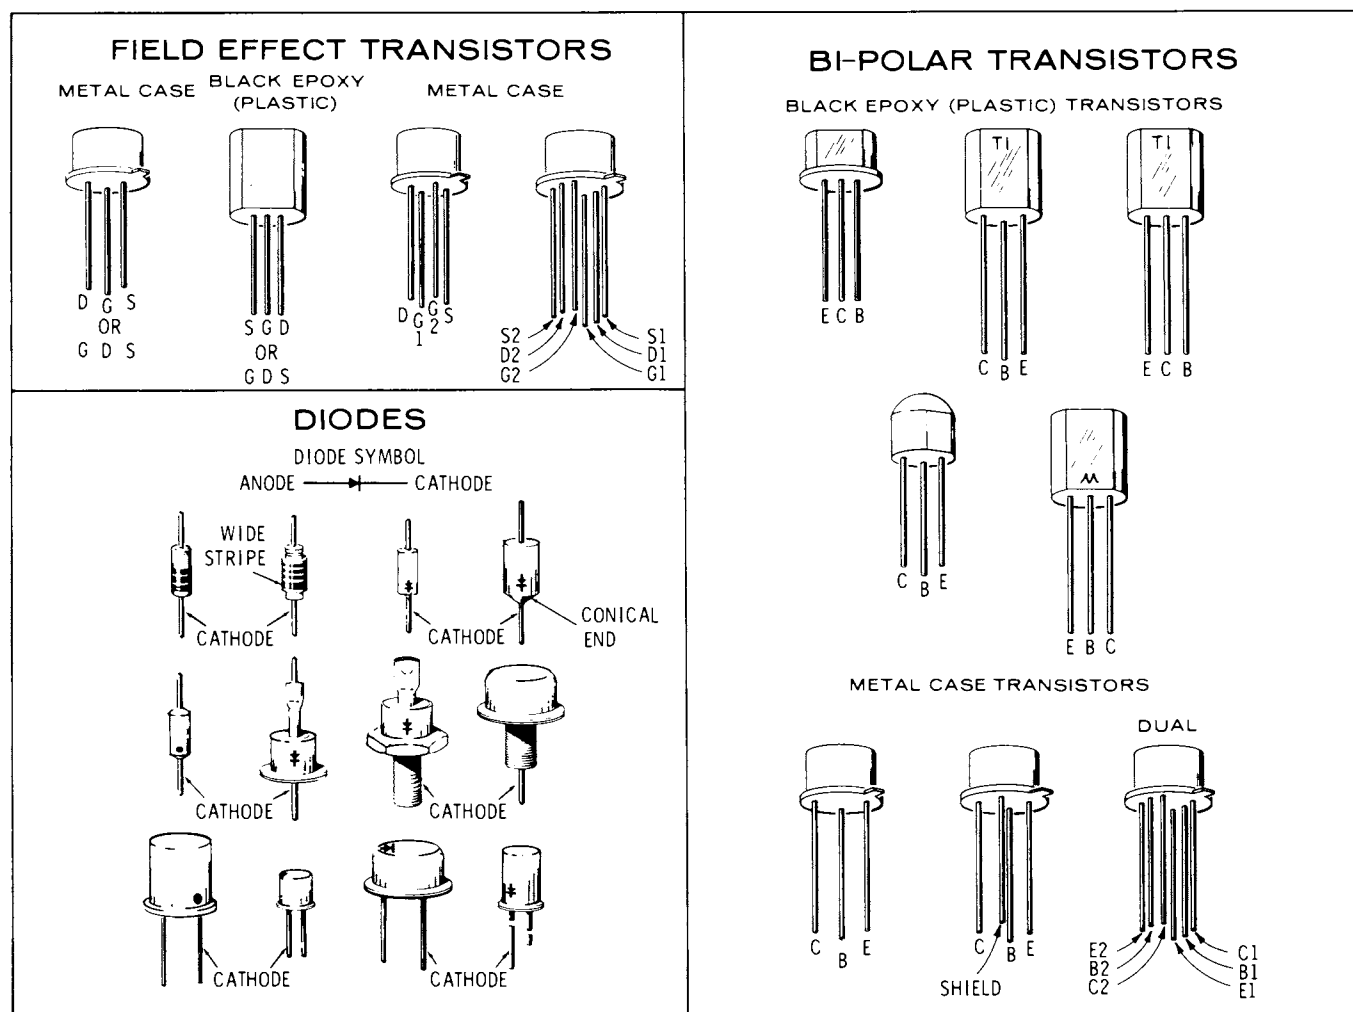

Figure 8-2. Examples of Diode and Transistor Marking Methods
**8-29. Transistor Replacement.** Transistors are packaged in many physical forms. This sometimes results in confusion as to which lead is the collector, which is the emitter, and which is the base. Figure 8-2 shows typical epoxy and metal case transistors and the means of identifying the leads.
**8-32. Diode Replacement.** Solid state diodes have many different physical forms. This sometimes results in confusion as to which lead or connection is the cathode (negative) and which lead is the anode (positive), since not all diodes are marked with the standard symbols. Figure 8-2 shows examples of some diode marking methods. If doubt exists as to polarity, an ohmmeter may be used to determine the proper connection. It is necessary to know the polarity of the ohms lead with respect to the common lead for the ohmmeter used. (For the HP Model 410B Vacuum Tube Voltmeter, the ohms lead is negative with respect to the common; for the HP Model 412A DC Vacuum Tube Voltmeter, the ohms lead is positive with respect to the common). When the ohmmeter indicates the least diode resistance, the cathode of the diode is connected to the ohmmeter lead which is negative with respect to the other lead.